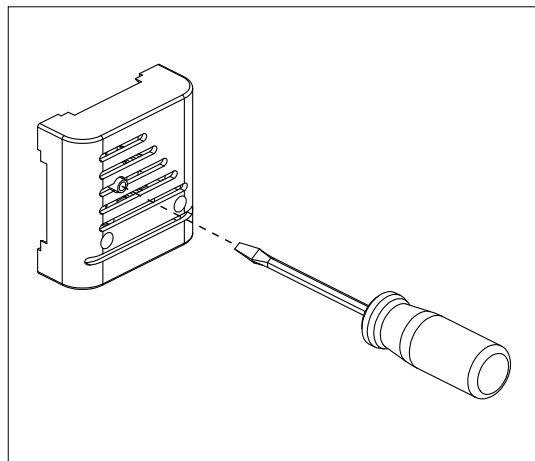

Figure 17. Reactivation of the overheat protector
- The overheat protector of the heater has tripped: the cause of the overheat protection tripping must be determined! The overheat protector can be reactivated by pressing the temperature sensor (Figure 17).